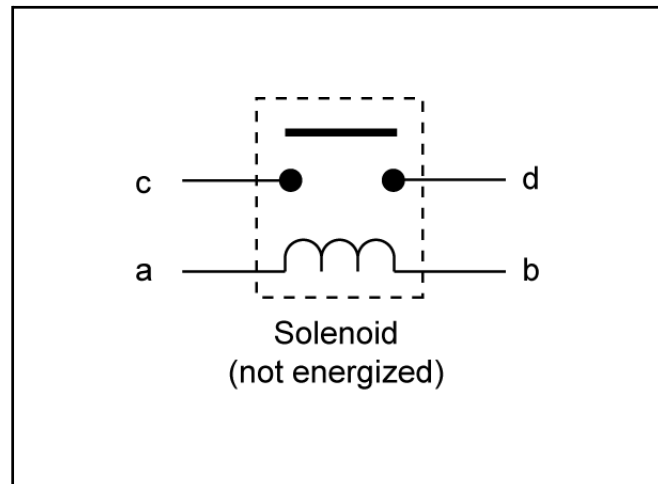

Figure 20
The solenoid has two primary parts. One is a coil of wire wrapped around an iron core. Whenever 12 volts is applied to the coil, it becomes a magnet. The other part is a bar type switch (Figure 20). Because it has a large contact area with the contact terminals it can easily handle the high current loads required by the starter motor.
2. With a multimeter (ohms setting), check to ensure that terminals “c” and “d” are open (no continuity) (Figure 20).
3. Apply +12 VDC to terminal “a” and ground terminal “b”. Terminals “c” and “d” should now be closed (continuity) (Figure 20).